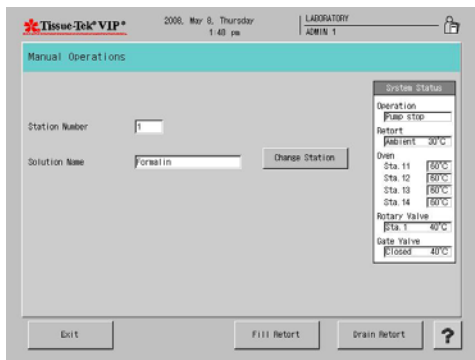

Figure 3-AA
- A Manual Operations screen displays (Figure 3-AA).